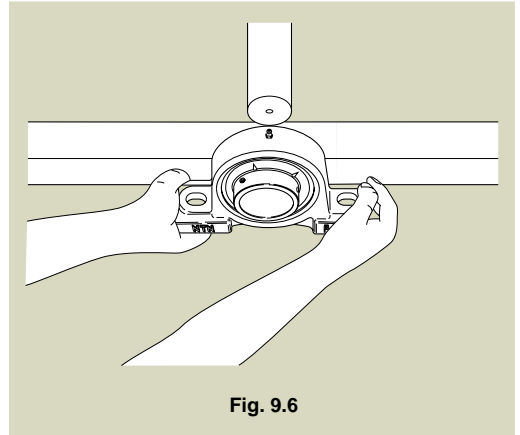

Fig. 9.6
- 2) Holding the unit at right angles to the shaft, insert the shaft into the bore of the bearing without twisting the bearing. Take care not to strike the slinger nor to subject the unit to any shock (Fig. 9.6).